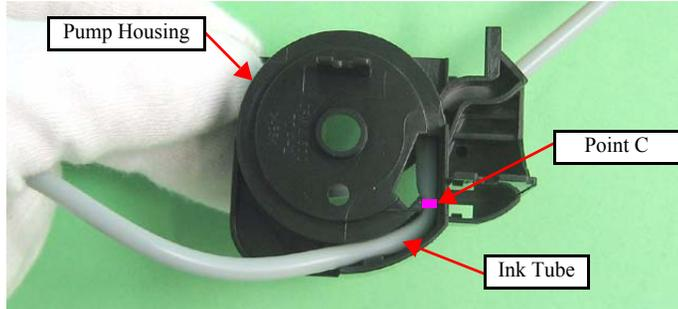

Figure 4-66. Assembling the Pump Assy (2)
- Make sure that point C is placed in the correct position. (See Fig.4-66.)